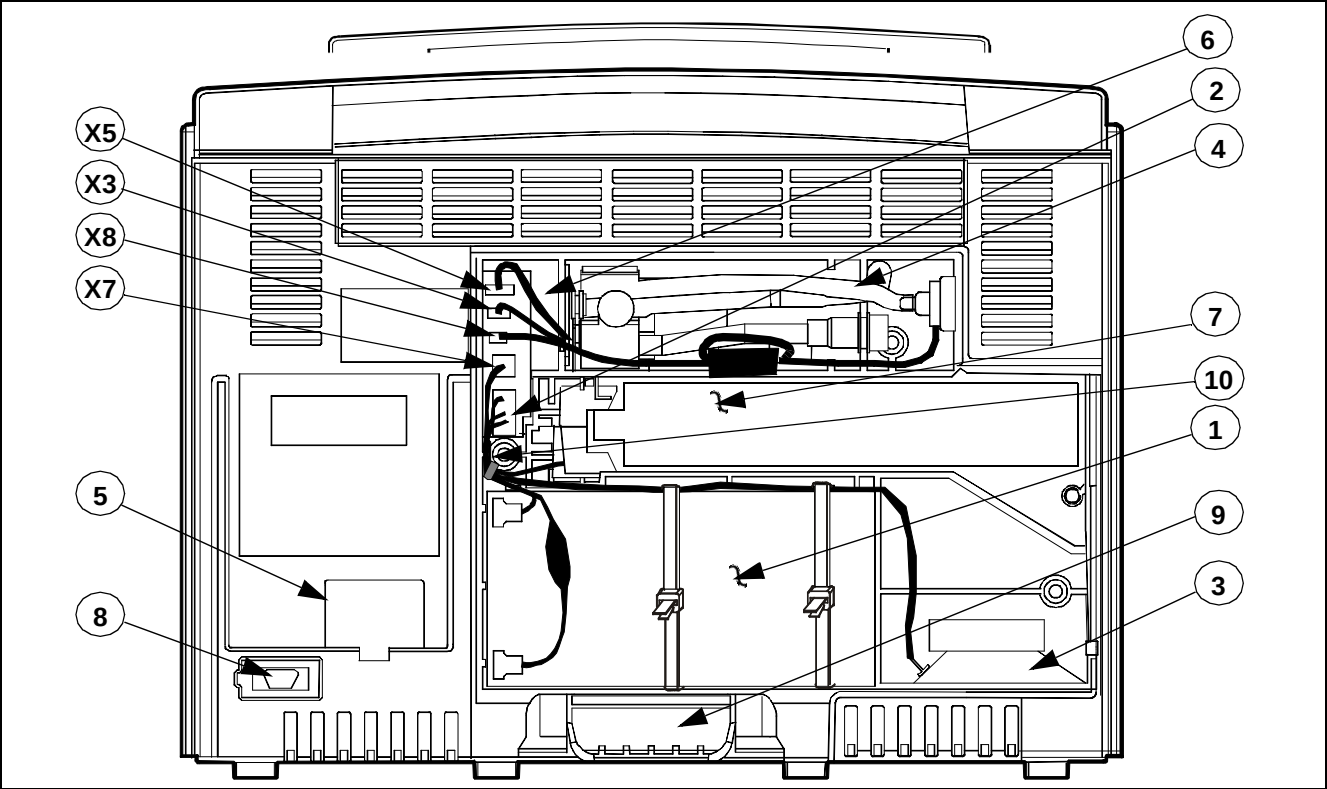

Figure 3-1 SC 7000 and SC 9000XL Rear View w/ Cover Removed
The external battery (⑦ in Figure 3-1) and main battery (① in Figures 3-1 and 3-2) are contained in compartments on the rear of the monitor. It is necessary to remove the back cover (⑥ only to replace the main battery.
4.5 Removing / Installing Main Battery	The main battery (① in Figures 3-1 and 3-2) is in a compartment below the external battery compartment behind the rear cover (⑥ in Figure 3-2). Use the following procedure to remove the main battery.
- 5) Using long-nose pliers, unplug speaker connector from X7 (see Figure 3-1 on page 40) and power cable connector (2 in Figure 3-1 and in Figure 3-2) from Connector I/O PCB in connector cavity (6 in Figure 3-1), and remove power cable subassembly.
Sandwich wires of power cable and speaker subassembly between left side of housing and flat plastic cable guide (10 in Figure 3-1 on page 40) to prevent possible damage to harness when installing rear housing screws.
The NP subassembly, ④ in Figures 3-1 and 3-2, is housed in a compartment above the external battery on the back of the monitor. Use the following procedure to replace filters and/or the NP subassembly.
- 4) Refer to Figure 3-1 on page 40. Using long-nosed pliers, unplug NP subassembly cable connectors from X3 and X5 in connector cavity (⑥).